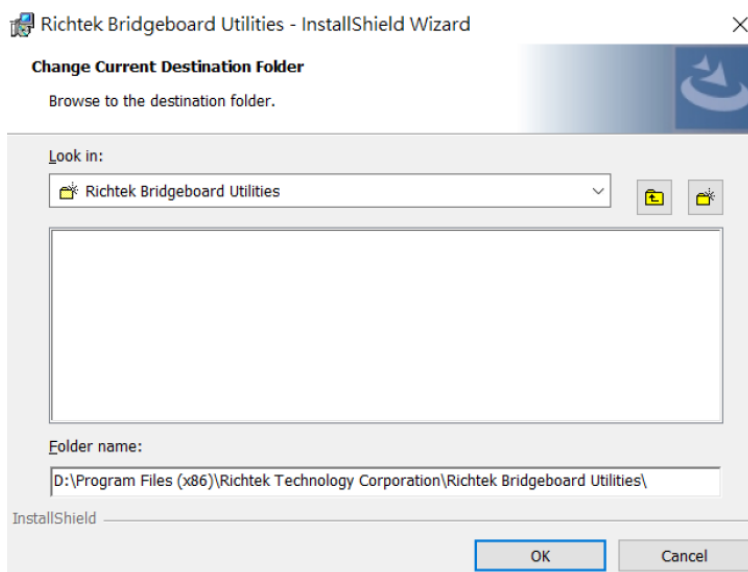

Figure 8. Driver Installation Step 8
Step 8: In Figure 8, you can set the installation path. Once the path is set, click the "OK" button.